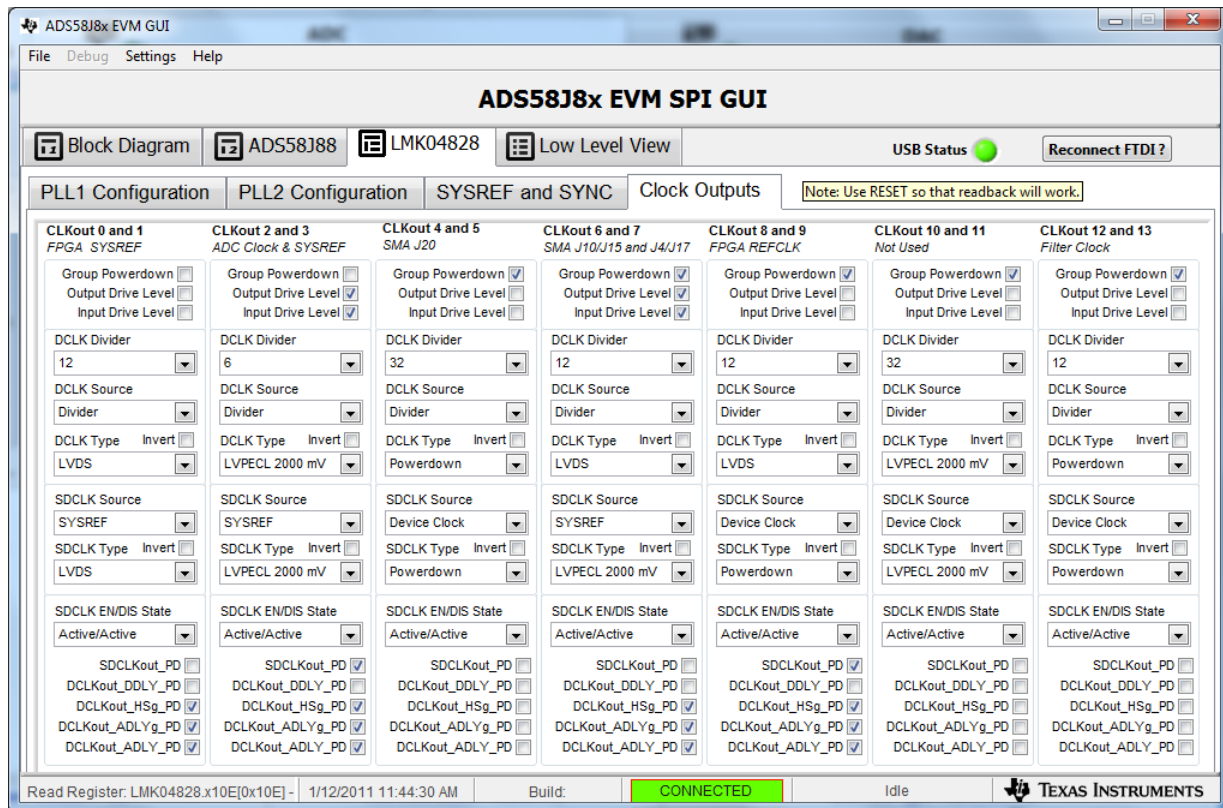

Figure 8. LMK04828 Clock Outputs Tab
Clicking *Clock Outputs* opens the LMK04828 Clock Outputs tab, shown in Figure 8. This tab is organized into 7 sections representing the 7 pairs of DCLK/SYSREF that the LMK04828 can generate. For each of the 7 pairs of DCLK/SYSREF there are a number of controls that apply to both outputs, such as the option to power down the pair of signals completely if not needed. For both DCLK and SYSREF there is an option to select what type of output driver is to be used, such as LVDS or LVPECL. There are controls to enable things like delay or inversion. For the DCLK, there is a control to select a divider ration to divide the PLL2 VCO clock down to the desired output frequency. For example, if the ADS58J89 EVM is to be operated at 500Msps then the configuration file supplied with the GUI will select the 3.0GHz VCO and select a divider ratio of 6 to generate a 500-MHz DCLK. If the TSW14J56 capture card is used, the TSW14J56 needs to see a DCLK reference that is one-twentieth the line rate of the serial data stream so the divider ratio chosen is 12 to generate a 250-MHz DCLK to the FMC connector. These two divider ratios can be seen in Figure 8.
9. Since a periodic SYSREF signal acts as a sub-harmonic clock of the converter sampling clock and may have spurious effect on the converter performance, it may be turned off during normal operation once synchronization has been achieved. Click on the tab labeled *LMK0428 Clock Outputs* located at the top of the GUI. Check the control for SDCLKout_PD in the block of controls for clocks CLKout 2 and 3. (See figure 8) This will power down the SYSREF to the ADS58J89. The SYSREF must be running initially in order to establish a JESD204B link between the ADS58J89 and the FPGA on the TSW14J56 but after initialization the SYSREF is no longer needed and may result in clock spurs coupling into the ADS58J89, reducing performance.